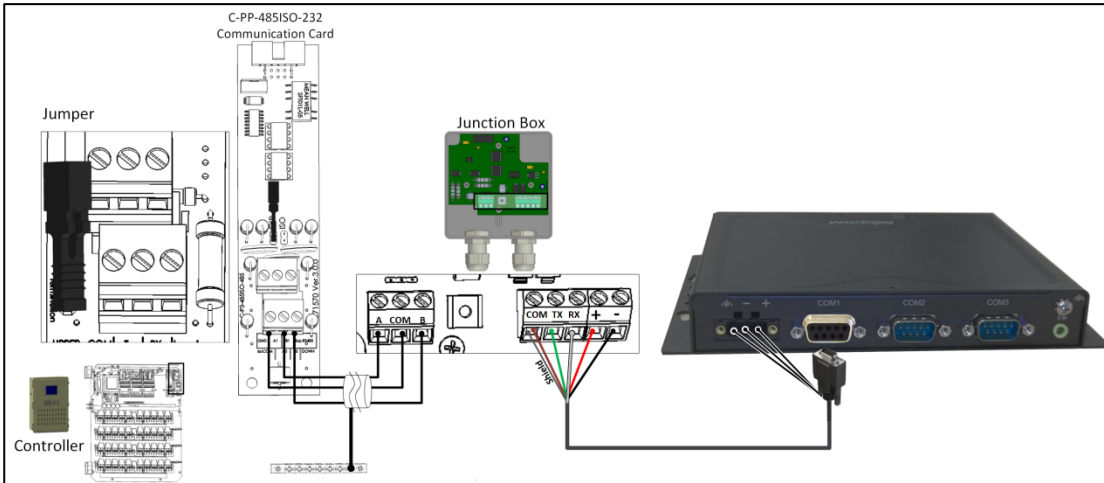

Figure 45: Comm-Box - Controller Termination
- There is no need to install an external 120 Ohm termination resistor in the controller; place a Jumper on the communication card at the unit located at the end of chain (Figure 45).